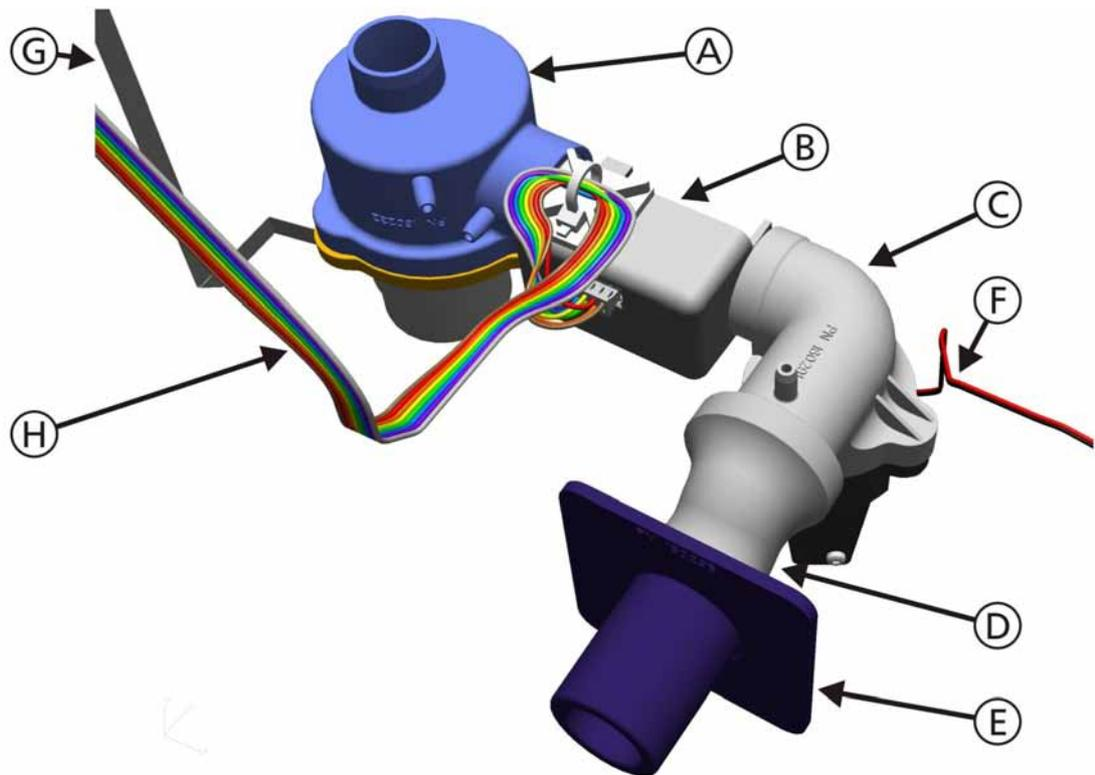

Figure 11-60. Inspiratory Valve, Qvent Flow Sensor and Ambient Valve Assembly, Step 1
- Figure 11-60, *Inspiratory Valve, Qvent Flow Sensor and Ambient Valve Assembly, Step 1*, on page 11-67